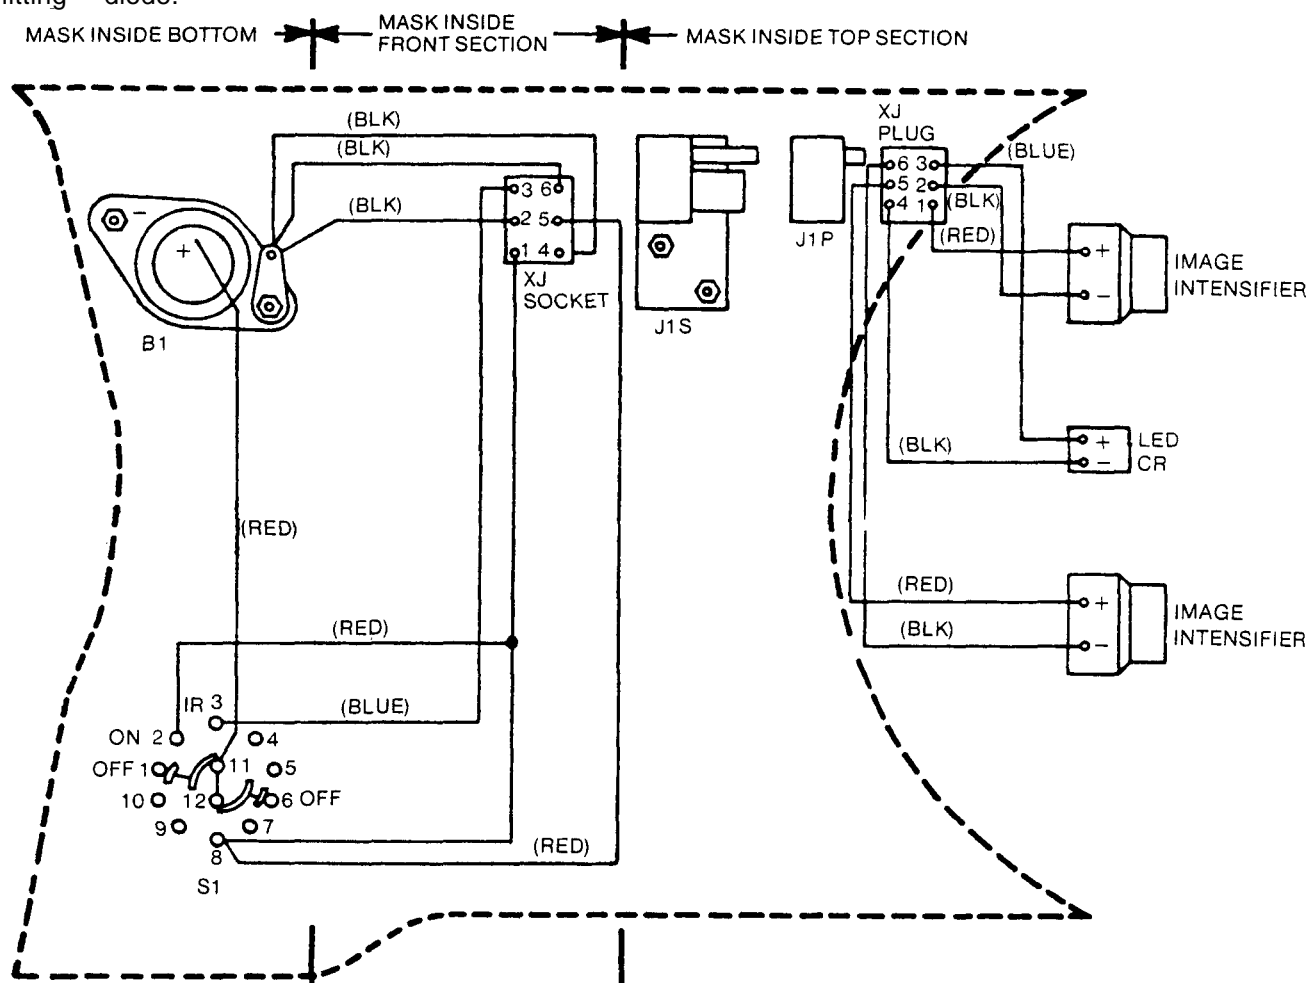

Figure 4-5. AN/PVS-5 and -5A Wiring Diagram
a. If one or both monocular fail to glow green when the rotary switch or power pack switch is placed in the ON position, the probable cause is a malfunction in the electrical plug connector, electrical receptacle connector, loose wiring, defective high-light cutoff hybrid circuit network (AN/PVS-5C NVG) or a malfunction of the image intensifier, night vision. Maintenance is performed by first checking for electrical continuity using Multimeter AN/VSM-223 and the following wiring diagram for the AN/PVS-5, -5A, -5B, -5C, (figs 4-5 and 4-6) GM-6(V)1, and GM-6(V)2 (fig. 4-7). For the AN/PVS-5C, check the function of the high-light cutoff hybrid circuit by turning the rotary switch OFF and back ON to reset the hybrid circuit. If power is applied from the battery through the rotary switch to the electrical receptacle connector J S, the malfunction probably is in electrical plug connector J 1 P, wiring to the image intensifier, or the light emitting diode.